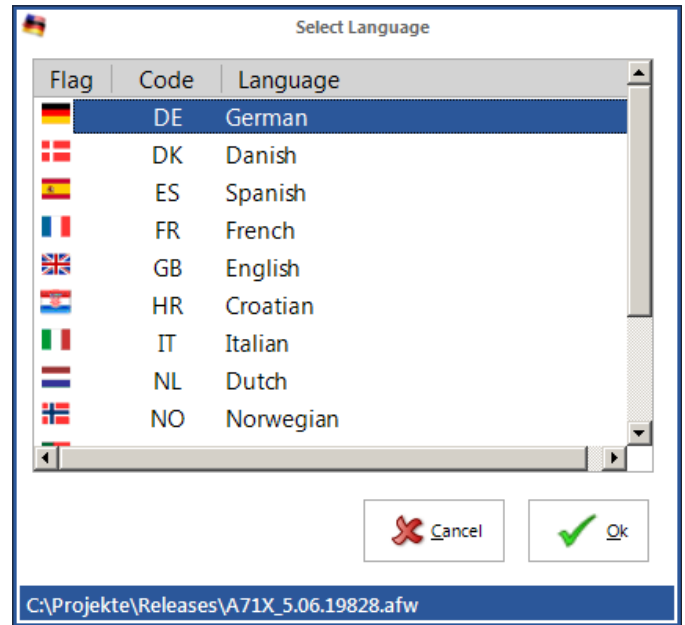

Figure 25: Select Language
8. Select language (Figure 25)